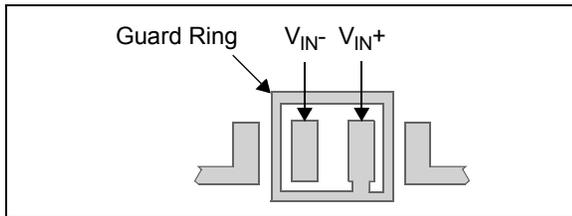

FIGURE 4-12: Example Guard Ring Layout.
Figure 4-12 shows an example of this type of layout.
2. Inverting (Figure 4-12) and Transimpedance Gain Amplifiers (convert current to voltage, such as photo detectors).